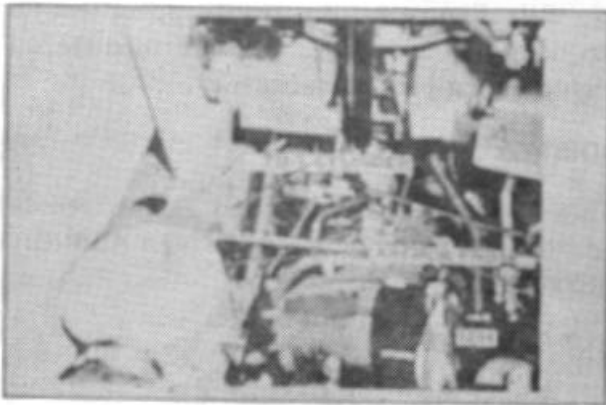

Figure 29.
2. Remove the floor plates. (Fig. 29)